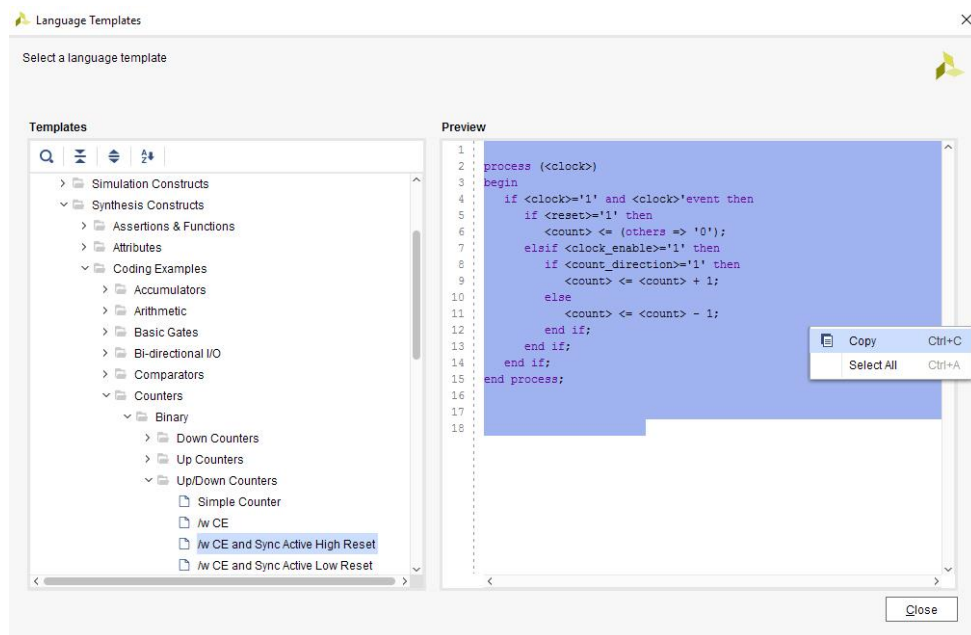

Figure 8
- To copy and paste the template to our design source, select the **Preview** window, right click to open a drop-down menu and select **Select All** followed by **Copy** (Figure 8) and paste the template into the **counter** design source